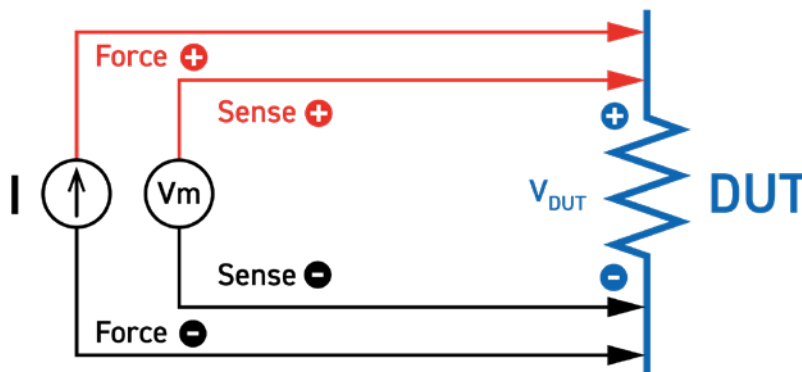

Figure 1 - Kelvin 4-terminal resistance measurement configuration
During or following each applied stress cycle, the DUT typically undergoes some form of parametric testing, which involves the electrical testing and characterization of dedicated test structures manufactured on the semiconductor wafer or package substrate to verify whether the specific structures still satisfy the required design criteria. These tests are typically performed by a Source/Measurement Unit (SMU) and range from simple resistance measurements to scanned current versus voltage (IV) or capacitance versus voltage (CV) measurements, usually made via Kelvin 4-wire connections to eliminate instrument-to-DUT interconnection resistance, as illustrated in Figure 1.